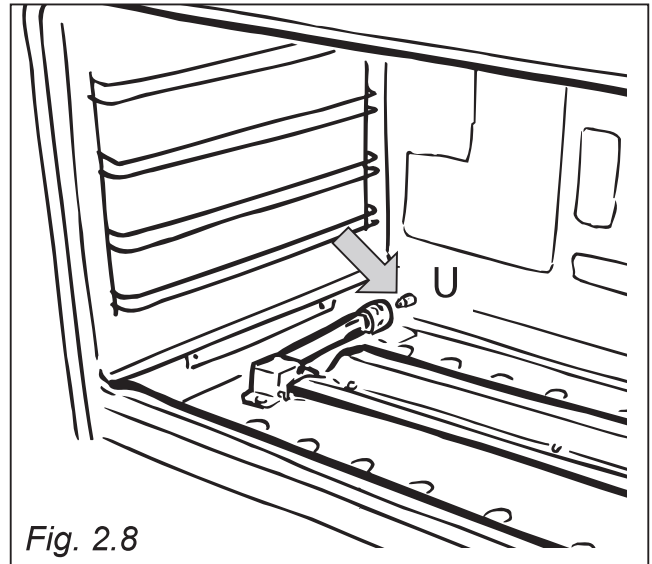

Fig. 2.8
- Withdraw the burner in the manner shown in figure 2.8, and rest it inside the oven. Take care not to damage the wire to the ignition electrode and the safety valve probe.
- Using a 10 mm box spanner, unscrew the injector “**U**” (indicated by the arrow in fig. 2.8) and replace with a new injector selected in accordance with the “Table for the choice of the injectors”; then replace the burner repeating the above steps in reverse order.